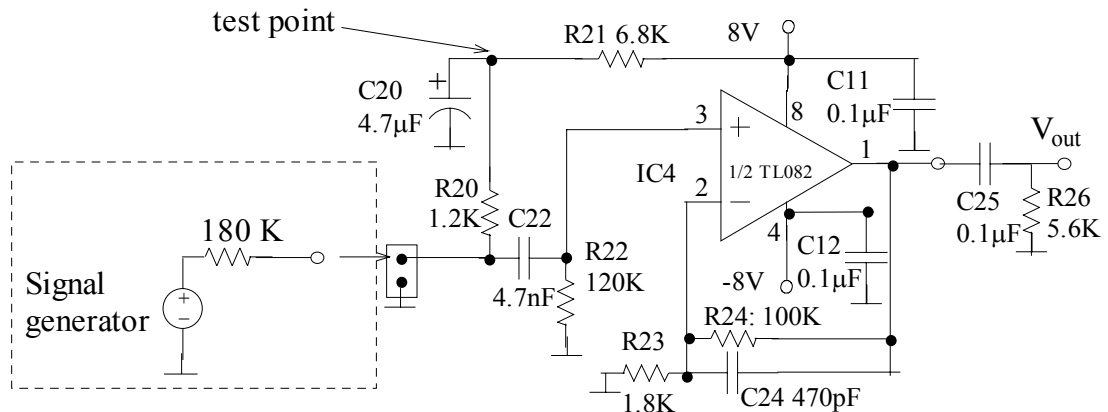

Figure 3.33 Microphone amplifier
We now have the part of the circuit depicted in Figure 3.33 installed. Initially, we shall use the signal generator instead of microphone to supply the signal to the amplifier. In order to make the signal generator look like a current source; we use a 180 K resistor in series with it. Set the output level of the signal generator to 6.8 V pp or 2.4 V rms. **Make sure that J12 connector is not connected**, because if it is connected, the microphone jack shorts the input of the amplifier at all times.
2. What is the Norton equivalent current source of the circuit in dotted box at the input of the amplifier, in Figure 3.33?
6. Mount and solder R27, R31, D3 and D4. Connect the signal generator and 180 K resistor, as in Figure 3.33. Adjust the frequency to 1 KHz and amplitude to 6.8 V peak. Switch the power ON. Connect a probe to the output of the OPAMP and another across the diodes. You must see a proper sine wave at OPAMP output with a peak voltage of about 2.5 V. Adjust the input amplitude if necessary. Measure the waveform across the diodes, i.e. the period, important voltage levels, etc., and sketch the waveform. Is the shape of this signal similar to what you have obtained in Exercise 5? What are the differences? What are the reasons for the differences, if there are any? Switch the power OFF.